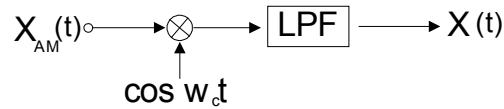
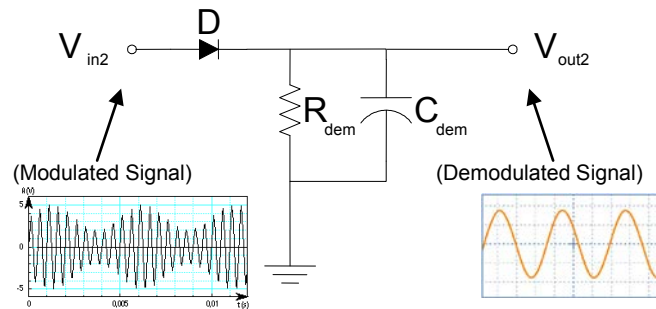

Figure 3- High-level system diagram of an AM demodulator
Figure 4- Circuit diagram of a passive demodulator
In general, to downconvert a signal to its baseband frequency, the signal must be multiplied by a carrier wave, then sent through a low pass filter as shown in Figure 3. (this approach will be further discussed in detail in ECSE-304). However, for AM signals, a simpler method involving amplitude detection may be used. To do so, you will use the demodulator circuit shown in Figure 4.
- 2.2.1 In your own style, briefly explain the operation of the circuit shown in Figure 4 (do not copy the book!), and indicate the factors to consider when selecting the capacitor and resistor values.
Create the circuit shown in Figure 4. Using the signal generator, set the carrier signal to the frequency band assigned to you by your laboratory TA. Second, modulate this signal using the AM modulation function of the generator. The audio signal frequency will then be “carried onto” the carrier frequency through AM modulation.